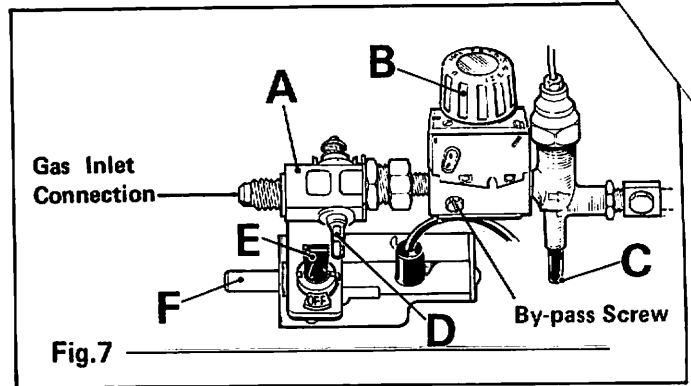
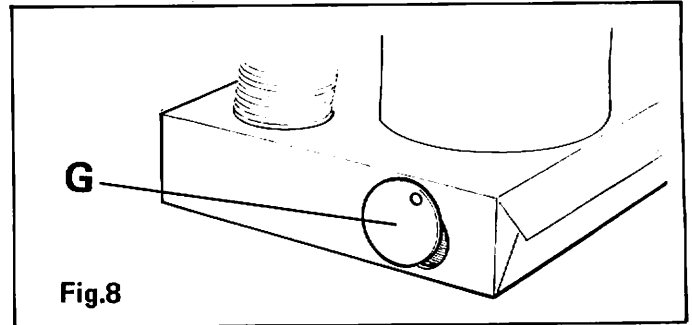

Fig.7
Fig.8
The gas inlet connection (fig.7) on the rear of the refrigerator, to which the supply pipe is to be connected (after the refrigerator has been fitted into the recess), has a male 5/8" 18U.N.F. thread. This is accessible through the lower vent in the wall of the vehicle. The route of the supply pipe should be considered and any preparatory work carried out before finally securing the refrigerator in the recess and connecting.
Turn off the gas valve (A, fig.7) and, within 1 to 2 minutes, the flame failure device should automatically close. (An audible click from the valve may be heard when this happens).
Turn on the gas valve (A, fig.7) and attempt to re-light the burner without pushing in the plunger (C) of the flame failure device. If the burner cannot be lit, the flame failure device valve has operated correctly.
a) L.P. Gas Operation – Lighting the Burner (see fig.7)
- i) Open the lower vent at the rear of the refrigerator; on the outside of the vehicle, and set the 12V toggle switch (E) to 'OFF'. Turn on the gas valve (A) so that its handle (D) is in line with the gas valve body.
- ii) Turn the gas thermostat knob (B) to setting No. 4.
- iii) Push in the plunger (C) of the flame failure device for about 5 seconds to clear air from the pipe-line. (When starting initially or after changing a gas bottle, it may be necessary to depress the plunger for appreciably longer to clear all the air from the pipes). Still pressing in the plunger (C), push in fully the button (F) of the piezo igniter, several times in quick succession. (A click should be heard each time it is depressed). The burner should light, but continue to press in the plunger (C) for a further 15 seconds, then release it and check that the burner is alight by looking at the flame through the opening (G, fig.8). If the burner has not lit, repeat the lighting procedure.
Before taking the vehicle on any road, turn off the gas cock (A, fig.7), and, if required, use the 12V facility to operate the cooling unit.
Once or twice a year, look through the opening (G, fig.8) in the burner box and examine the appearance of the burner flame which should be predominantly blue in color when the gas thermostat knob is set at MAX. If this is not the case, the flue, burner, and jet etc. should be cleaned as follows :-